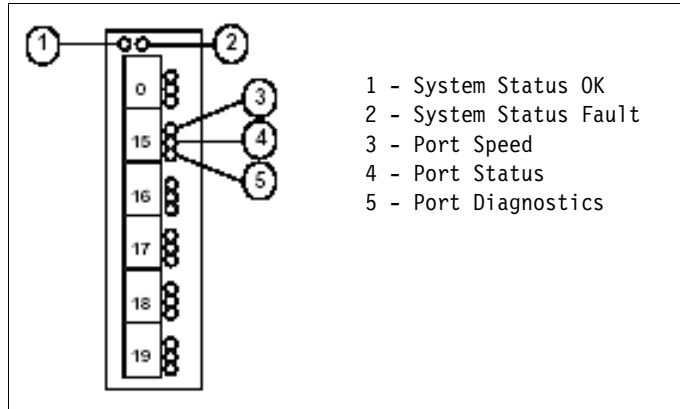

Figure 5-47 Brocade 4Gb Switch Module LED definitions
4. Observe the LED to ensure the link initializes correctly. The Port Status LED should be solid green for both the SAN32B and switch module. Figure 5-47 on page 106 shows the LED definition for the switch module.